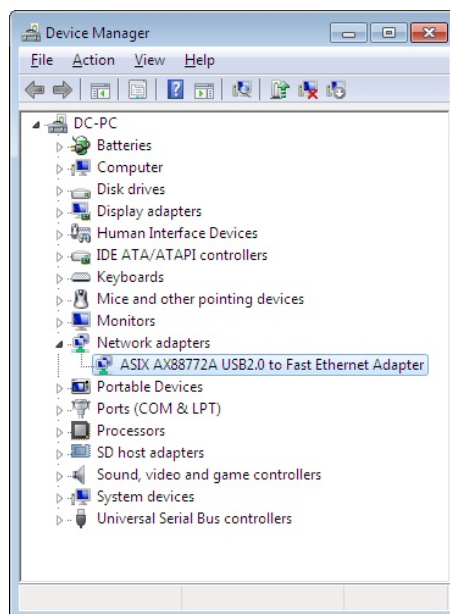

Figure 6-23: Device Manager Window
Step 19: The **Device Manager Window** now shows the installed LAN driver (Figure 6-23).